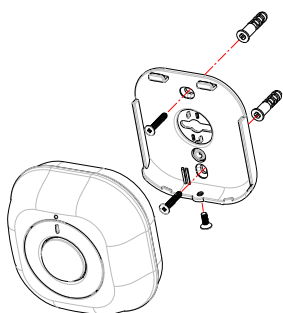
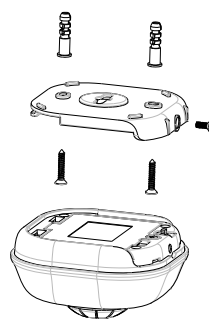

FIGURE 4a
FIGURE 5a
4. Decide the detector is to be wall-mounted (FIGURE 4a) or ceiling-mounted (FIGURE 5a). Hold the rear cover in position and mark the two mounting holes. Drill the holes, insert the plastic wall plugs and screw the rear cover to the wall or ceiling using the screws supplied.